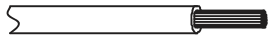

Fig. 27 —Stripping the Wire
2. Strip a suitable length of the insulation layer (see Fig. 27).